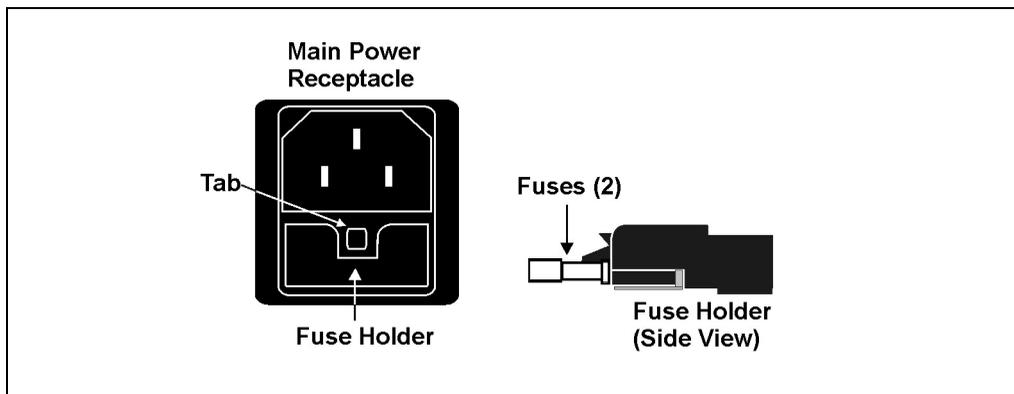

Figure 5-28. Main Power Fuse Holder
2. The fuse holder is part of the main power receptacle (see Figure 5-28) on the ICS-2000 rear panel. To remove the fuse holder, squeeze the tab on the top of the holder to release it and pull the holder straight out of its compartment.